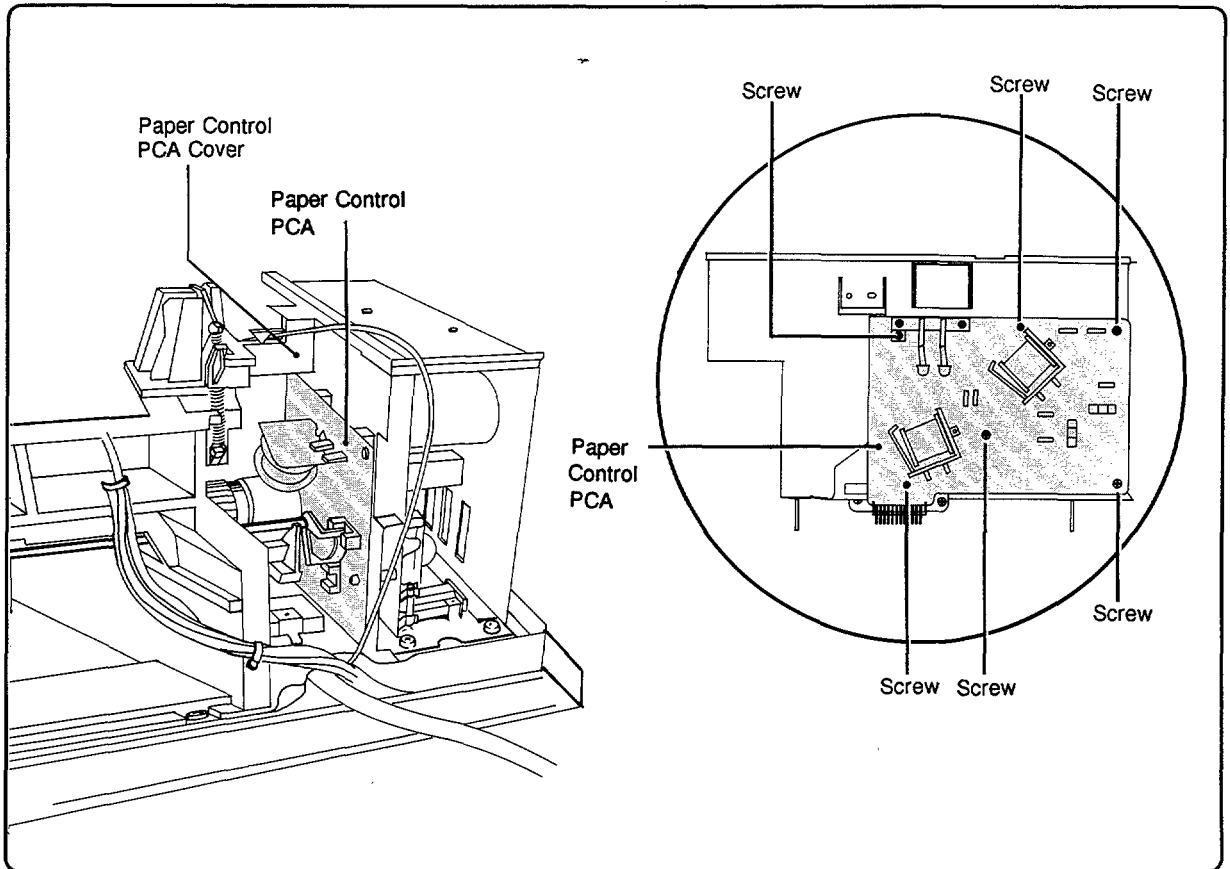

Figure 6-20. Paper Control PCA Removal
Figure 6-20 shows the location of the Paper Control PCA.
2. Remove the Paper Control PCA cover (1).
3. Remove the screws (6) that secure the Paper Control PCA to the DC Power Supply Assembly (see Figure 6-20).